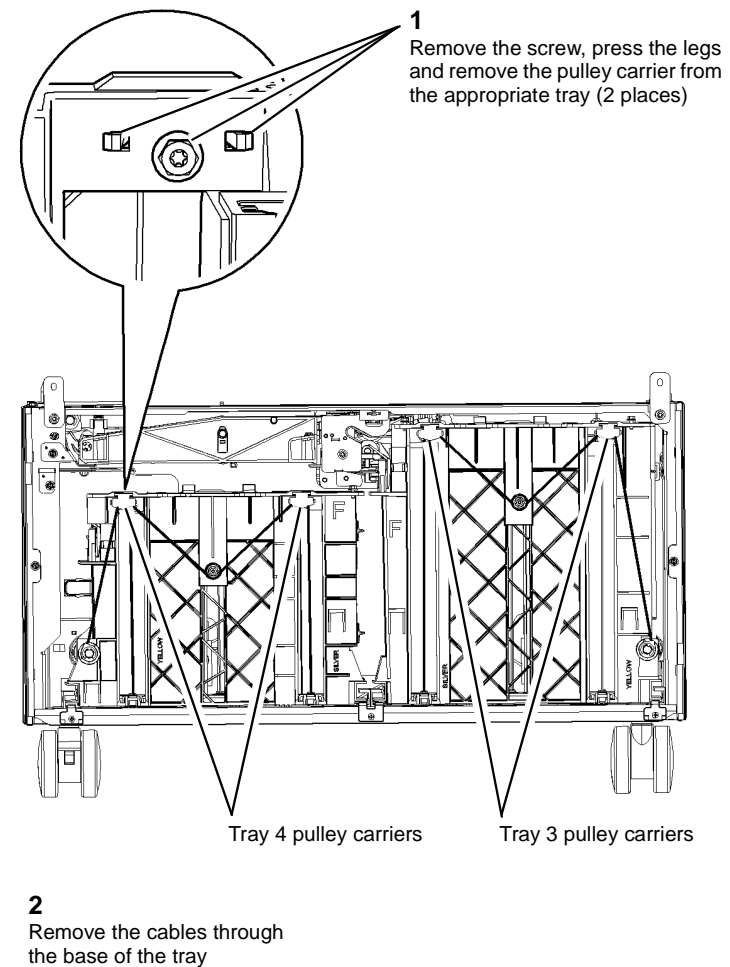

Figure 2 Front elevator cables removal
3. Remove the appropriate front elevator cables, Figure 2.